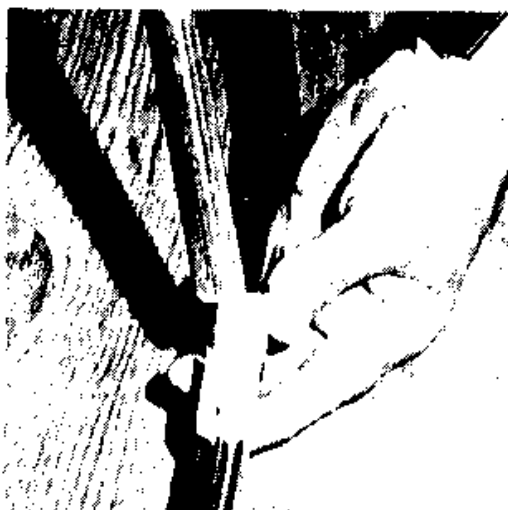

Fig. 5
9. Enter unit and insert bed bow support pole at bow peg. Push bow outward and upward until flat end will slip into bracket mounted onto roof. Fig. 5